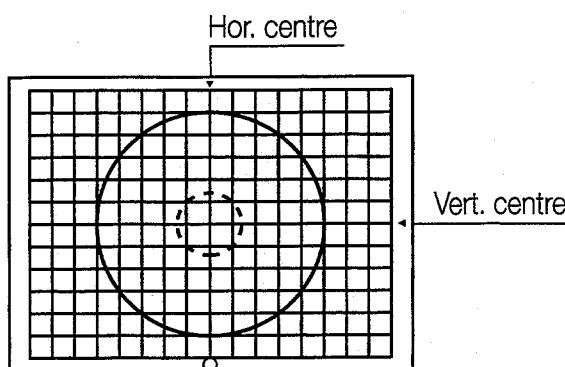

Fig. 7
1. Receive a crosshatch pattern (Fig. 7, input level 80dBuv).
3. Check the horizontal line of the center cross-line it should meet the vertical centre mark (off center tolerance $\pm 2\text{mm}$) (See Fig. 7)
1. Keep the pattern reception as Fig. 7